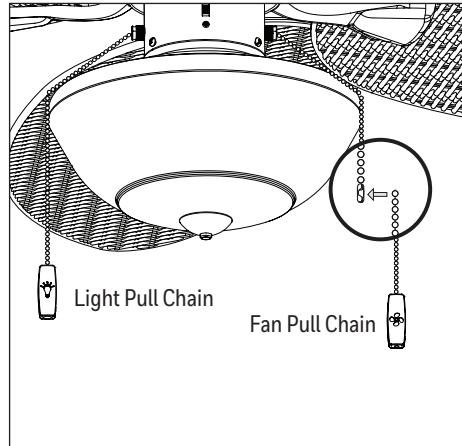

Figure 5.11
- Attach the pull chain extensions to the pull chains. **Note:** When facing the reverse switch, the pull chain on the left is for the light and the pull chain on the right (Figure 5.11).